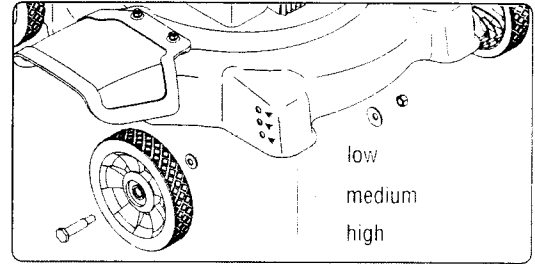

Figure 14: Cutting Height Adjustments
1. Remove the carriage bolts and related hardware from the wheels, Figure 14.